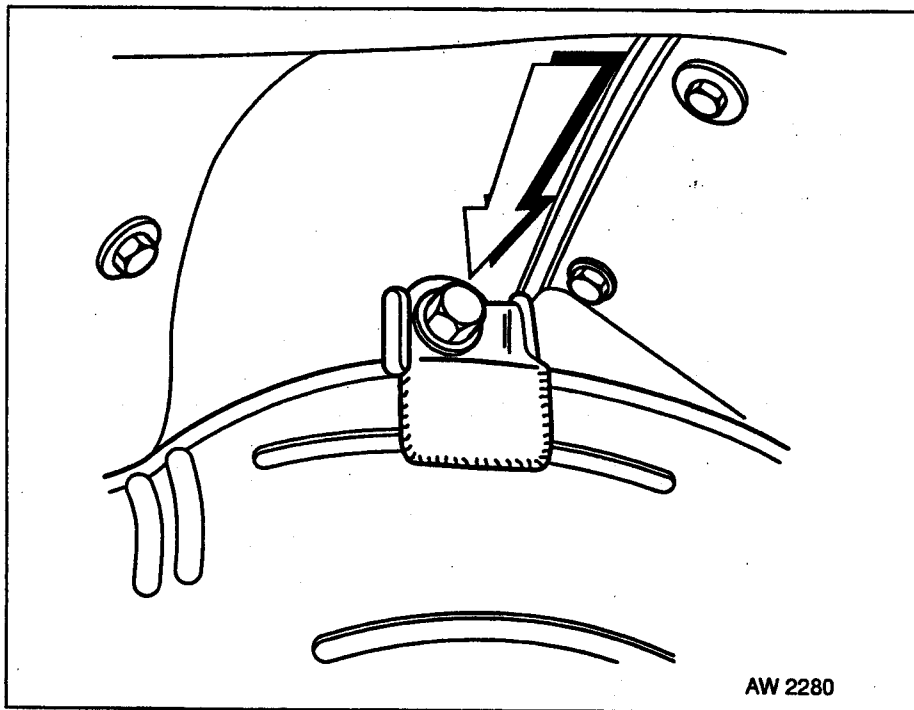

Fig 5.2 Silencer Retaining Bolt
- f. Remove silencer retaining bolt (Fig 5.1 (3) refers) located on inside of rear mudguard (Fig 5.2 refers).